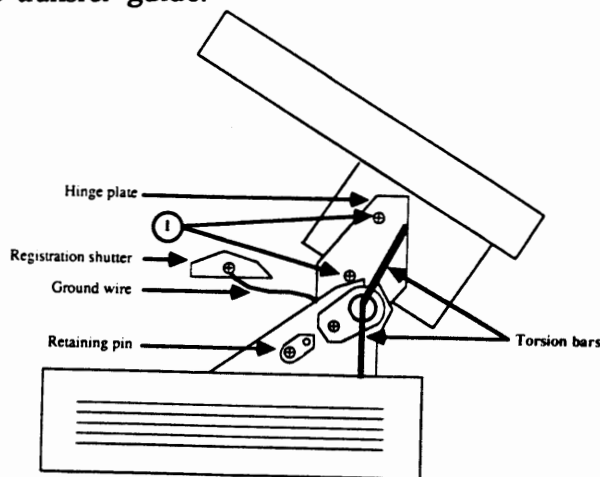

FIGURE 2-37
3. To allow the printer to open wider, remove the two retaining pins, one at each side of the cover (Figure 2-37).